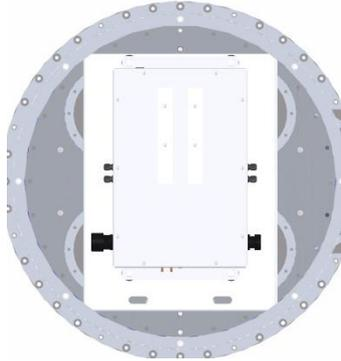

Figure11: Rear View with Perf Cover Plate Removed
- a. *To remove the electrical connection, remove the plate mounted to the perforated cover. This allows access to the DPT connection. Figure11 shows what should be seen after the plate is removed.*